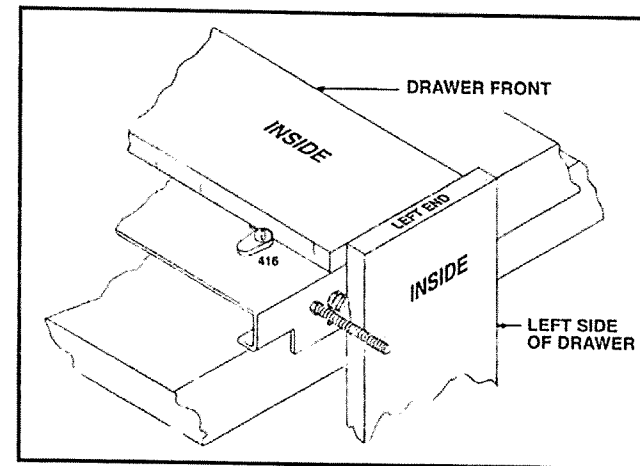

Fig. 12
5. Now, place the drawer front ("inside up") as in Fig. 12, under the finger templet and firmly butt it against the side piece and the locating cam on the left top surface of the templet base as shown in Fig. 12. Firmly tighten top clamp bar wing nuts to lock drawer front in place.